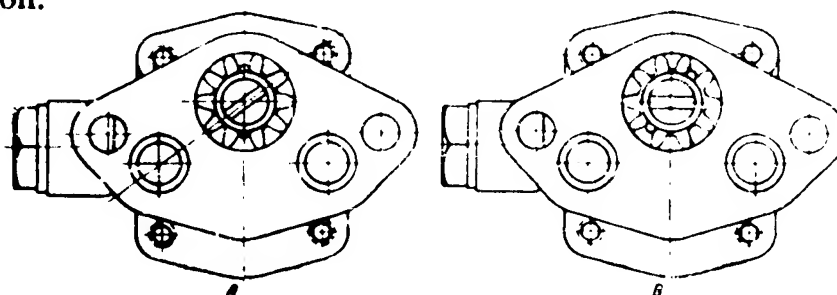

Fig. 20. Position of Oil Pump Shaft Slot
2. Turn the oil pump shaft so its slot is brought to the position shown in Fig. 20, A.
3. Put the oil pump in place carefully so that the pump gears will mesh with the camshaft gear, the pump shaft will turn and the slot for the distributor shaft lug will take a horizontal position, shown in Fig. 20, B.